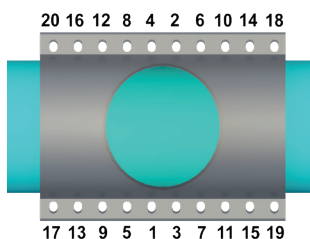

Figure C-4
C.10) Once the nuts are hand tight, tighten the nuts following the torque pattern in Figure C-4. Tighten nuts evenly and alternate from one side of the valve to the other. The gaps between the top and bottom sleeves are to be equal on both sides (within 1/8"). Nuts are to be torqued to the values provided below. Be sure to follow this tightening procedure to properly load the gasket.